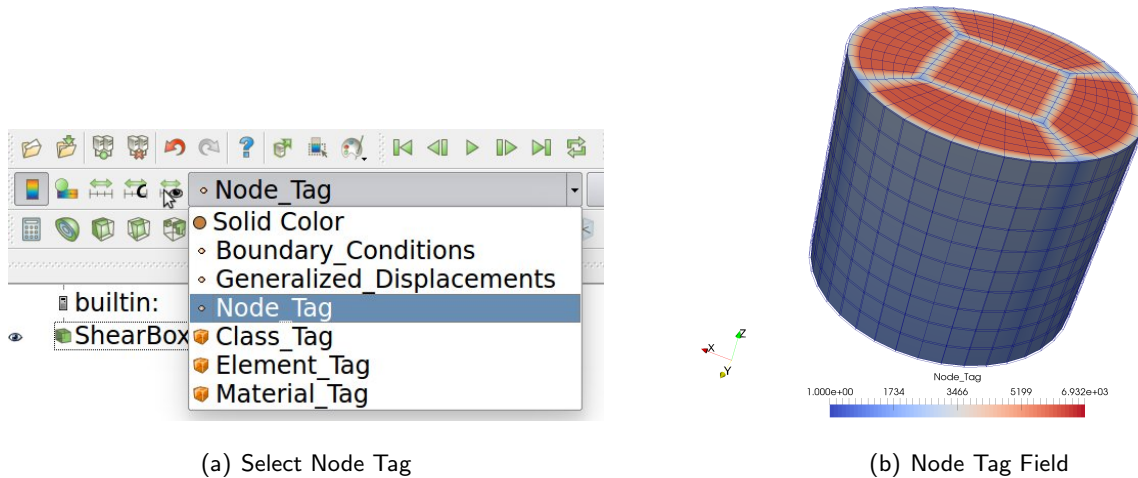

Figure 1.14: Node Tag Visualization.
**Node Tag Visualization :** This is a scalar field visualization that shows the node no associated with the nodes in Real-ESSI simulation. Figure 1.14 shows steps to visualize node's tag.